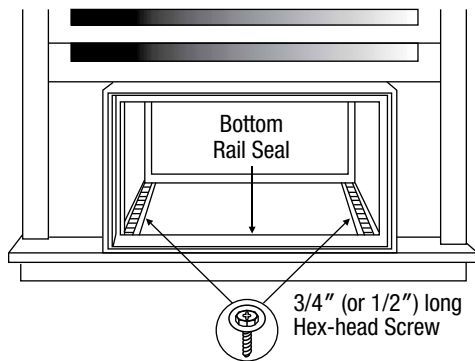

FIG. 13
5. Add bottom rail seal over screw to window sill. (See Fig. 13 on next page.)